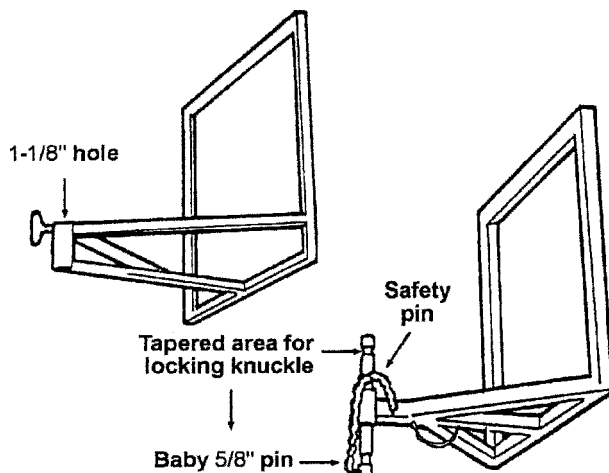

Figure 2.78 Wall sled.
1. The wall sled (Figure 2.78) is a mounting device designed to support lighting equipment from a set wall without the necessity of nailing directly into the wall.